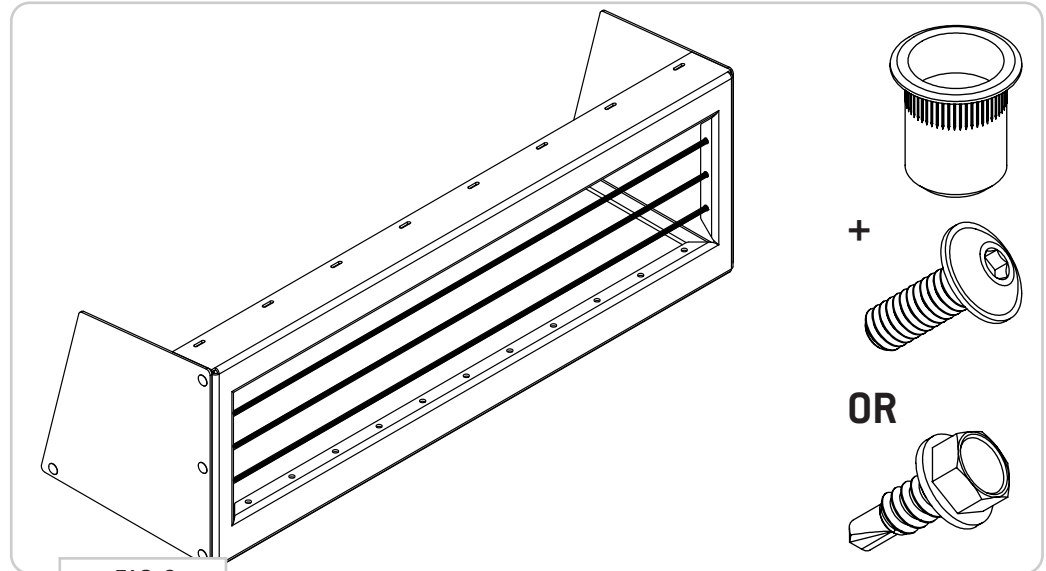
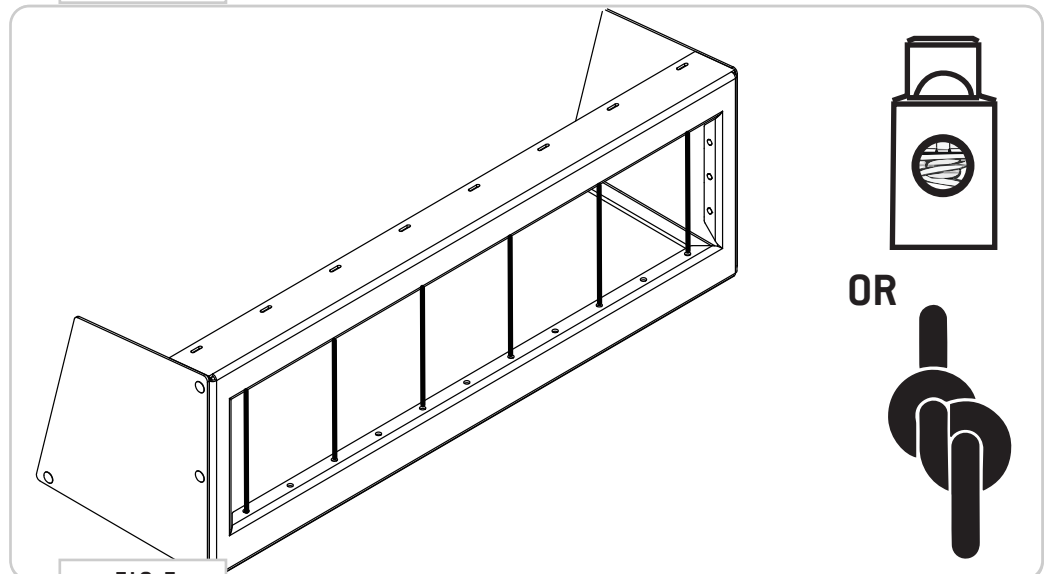

FIG 6
FIG 7
3.4 There are multiple slots available to accomodate whatever bungee cord pattern best suits your needs. See **FIG 6** and **FIG 7** for just a couple examples.